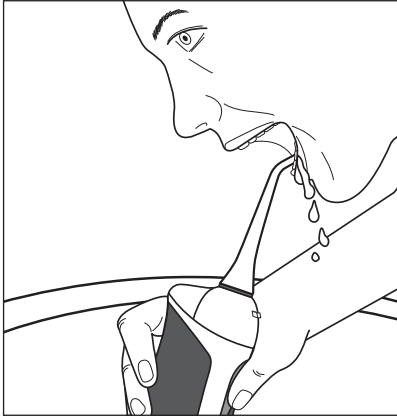

Fig. 1
- 4) Place the attachment  **2** in your mouth to prevent spray. Bend over the washbasin and hold the handpiece  **5** as upright as possible (see Fig. 1). Direct the nozzle  **1** of the attachment  **2** towards your teeth/ interdental spaces.